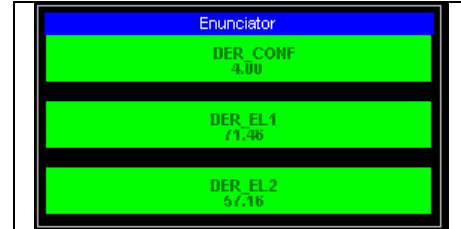

Figure 3-42 Enunciator Panel Widget
The **Enunciator Panel** widget, shown right in Figure 3-42, can display up to eight (8) individual parameters from up to twelve (12) streams, including formulas and functions. The user has individual control on colors and font sizes and may select rectangular, or circular indicator shape. The rectangular shape is shown right.